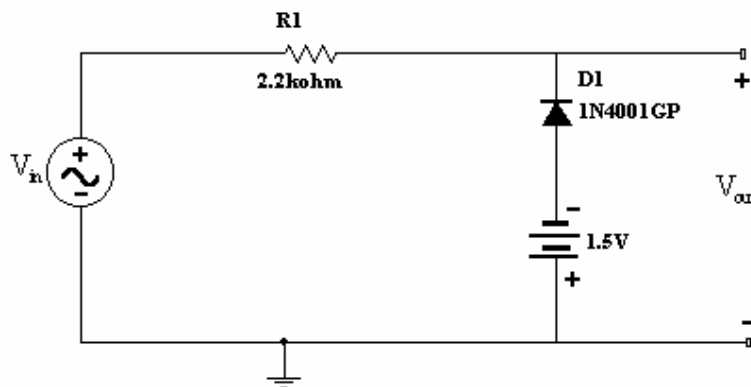

Fig.5: Clipping Circuit
4. Construct the clipping circuit shown in Figure 5. Record the measured value of the resistor. Note that the input signal is 10 V_{p-p} sine wave at a frequency of 1KHz.
6. Determine the theoretical output voltage V_{out} for the circuit of Figure 5 and sketch its waveform for one full cycle using the same sensitivities employed in step (5). Indicate the maximum and minimum values on the output waveform. Compare the results of step (5) and (6)?
7. Reverse the polarity of the DC power supply and repeat Step (5).